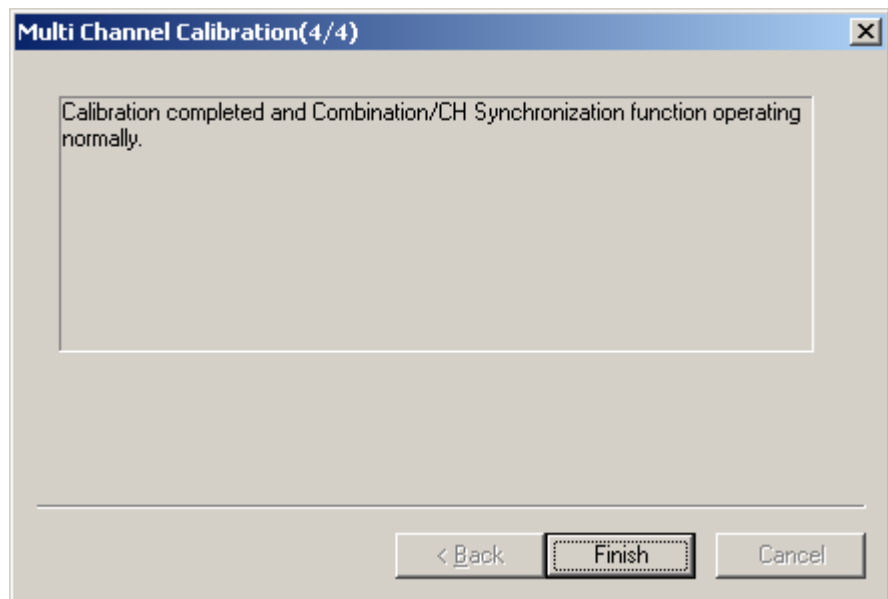

Figure 5.8-6 Multi Channel Calibration dialog box 4
When the dialog box shown in Figure 5.8-6 appears, click **Finish** to complete the calibration.
- When the Multi Channel Calibration Requirement Message appears as shown in Figure 5.8-1, perform the calibration according to the description of Figure 5.8-1 through Figure 5.8-6.
- (2) MU183021A, MU181000B, and MU181500B
4. When the Multi Channel Calibration dialog box appears as shown in Figure 5.8-1, perform the calibration according to the description of Figure 5.8-1 through Figure 5.8-6.